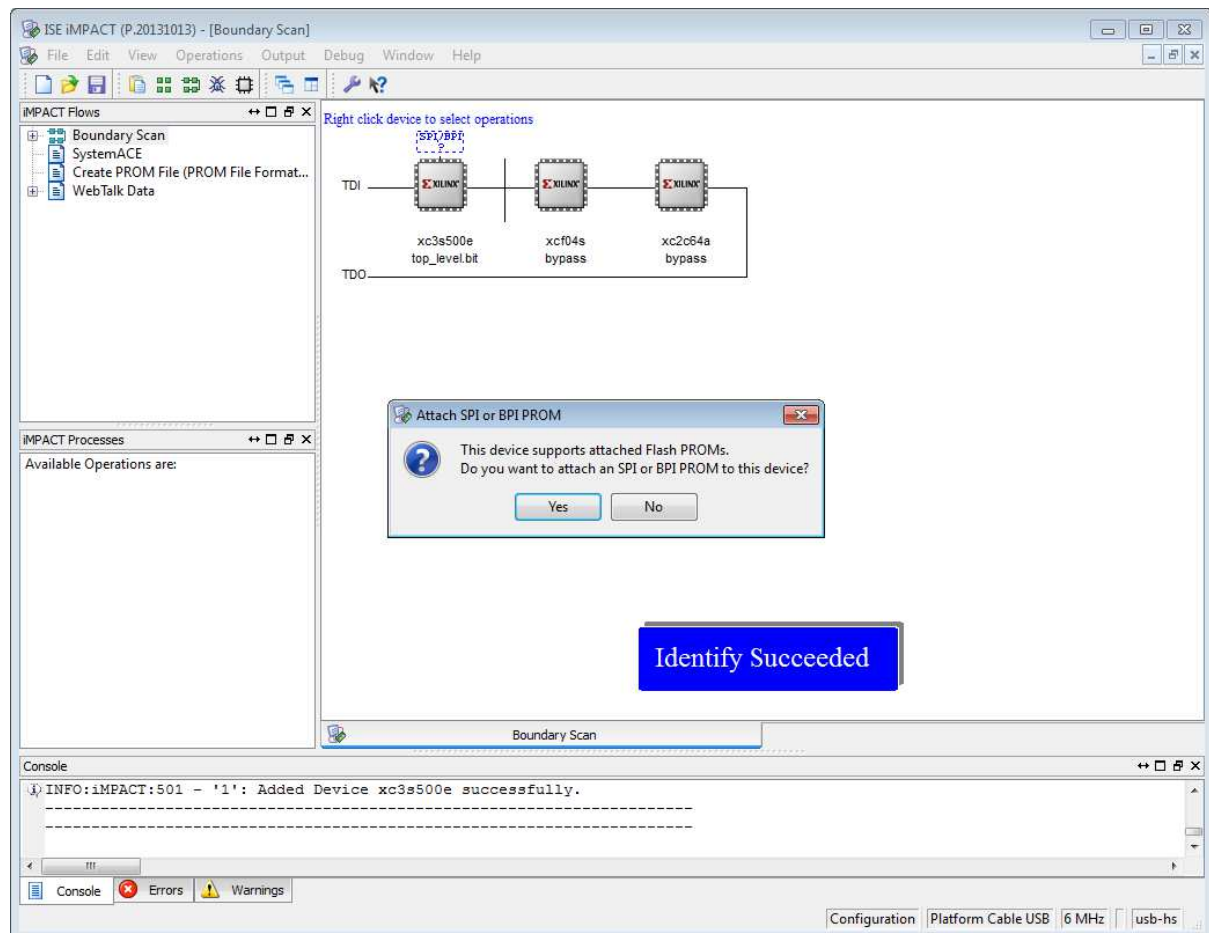

Figure 3.34: iMPACT window, dialog box asking if we wish to attach an SPI or BPI PROM.
9. A message stating “This device supports attached flash PROMs. Do you want to attach an SPI or BPI PROM to this device?” will appear (Figure 3.34). This is not needed for this design. Click **No**.